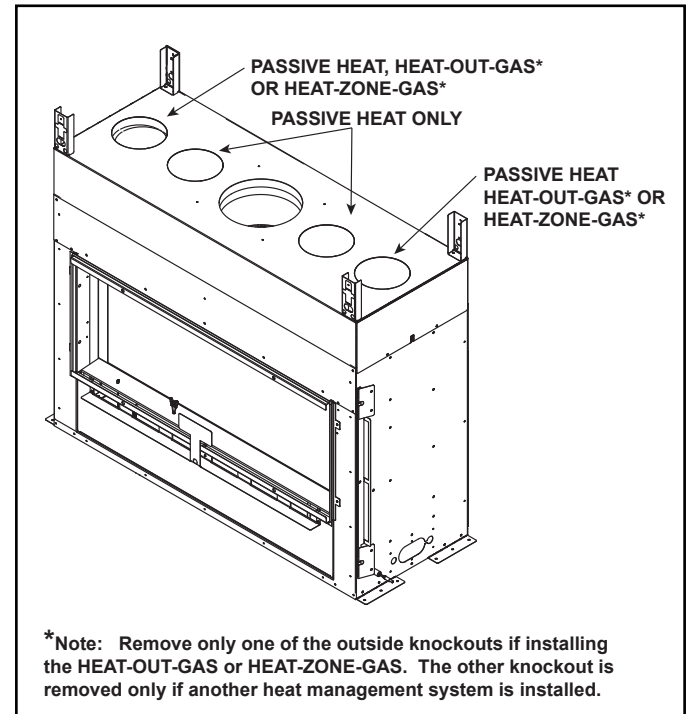

Figure 6.4
- Center the duct collar around the exposed hole and attach it to the appliance. See Figure 6.4.
- Passive Heat (PH-MCE, PHFR-MCE, PHSI-MCE): May be used with HEAT-ZONE-GAS or one HEAT-OUT-GAS. The dedicated knockouts must be used only as indicated in Figure 6.4.